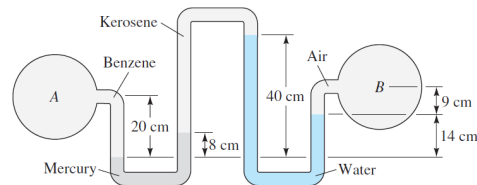

Fig. 2.1
- 2.1 In Fig. 2.1 all fluids are at 20°C. Determine the pressure difference (Pa) between points A and B.